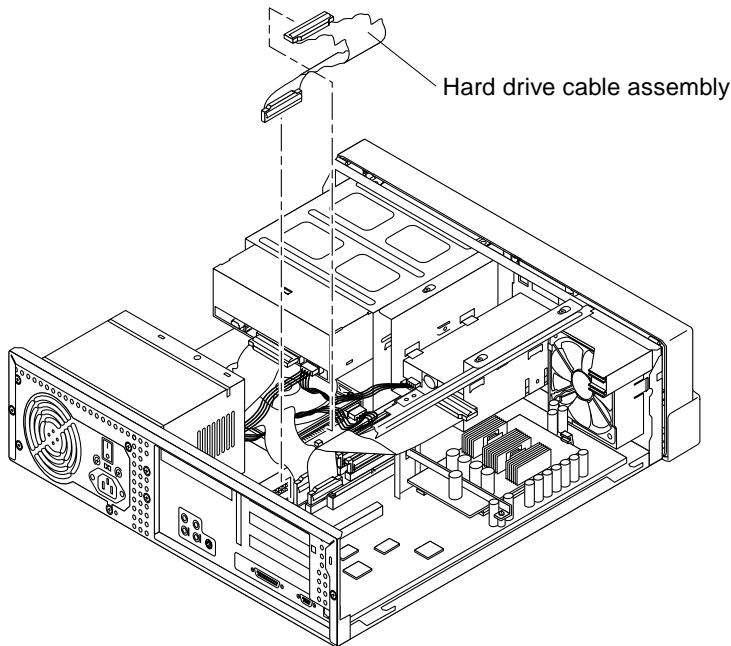

FIGURE 6-3 Removing and Replacing the Hard Drive CableAssembly
2. Disconnect the hard drive cable assembly connectors from the following (FIGURE 6-3):
1. Replace the hard drive cable assembly as follows (FIGURE 6-3):